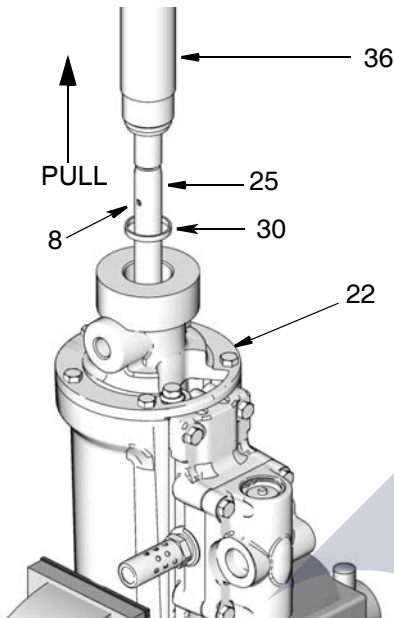

Fig. 36
2. Secure a strap wrench around the spacer cylinder (36) and use it to turn the cylinder counter clockwise to loosen and remove it from the flange (22) (Fig. 36).
3. Pull spacer cylinder (36) away from pump to access pin (8) (Fig. 36).